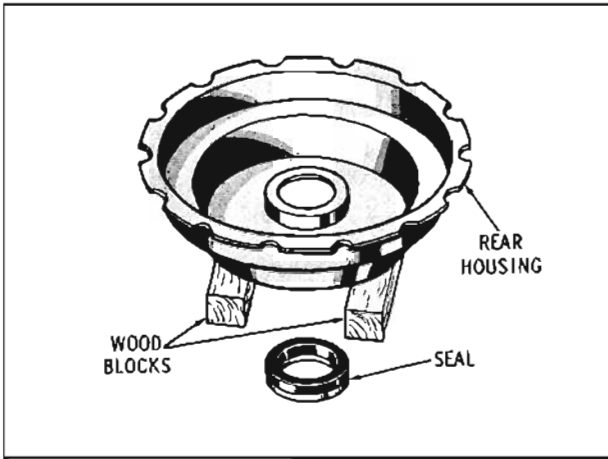

Fig. 11-46 Removal of Bearing Seal from Rear Housing
14. Remove the rear housing seal. (Fig. 11-46)